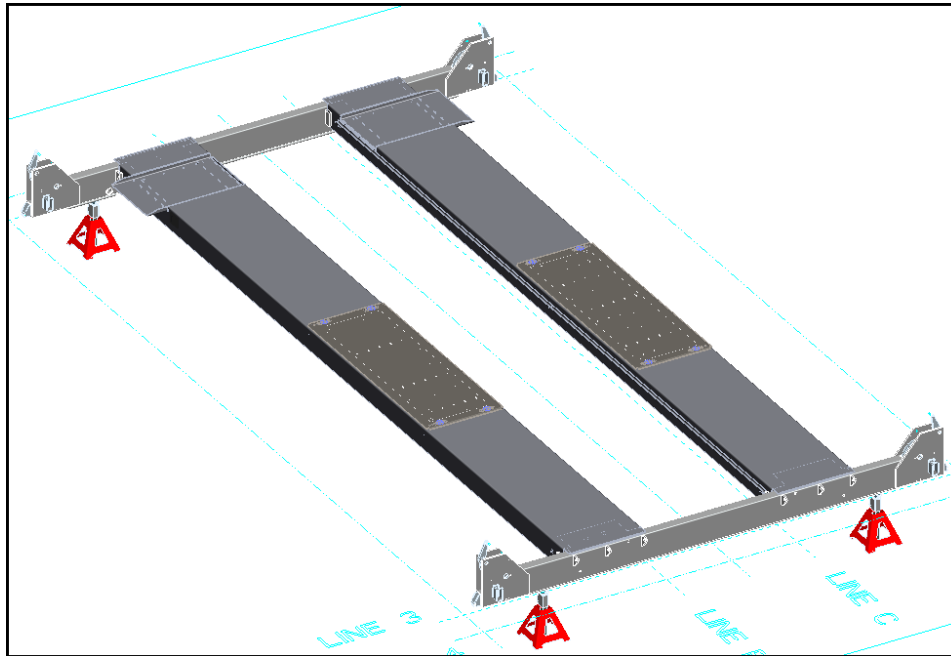

Figure 15. Jack Stand setup on Crossmembers
7. Using floor jack(s) and/or engine hoist(s), move the (4) jack stands from under the left side deck to each corner on the crossmember. **Figure 15**